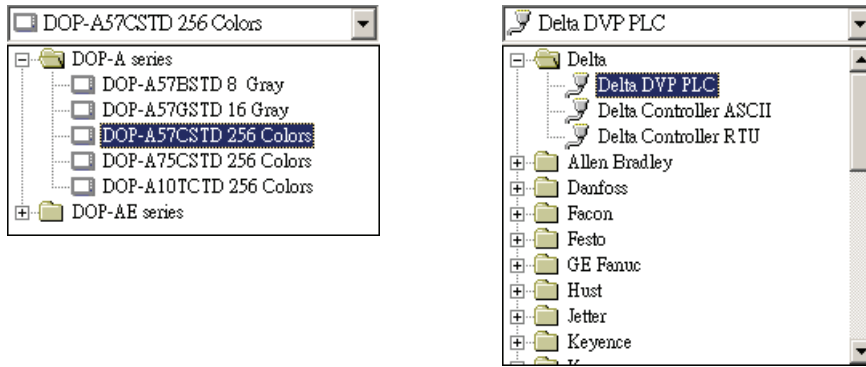

Fig. 2.3.4 HMI model and base port controller options
3. Input project name, screen name, select HMI model and connecting base port controller (Fig. 2.3.4), and then press **OK** button.